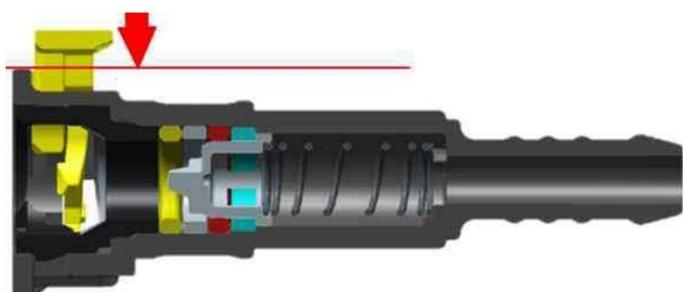

Figure 9
- With reference to **figure 9**, check that the retainer is in the correct closing position, identified by the red line (arrow).